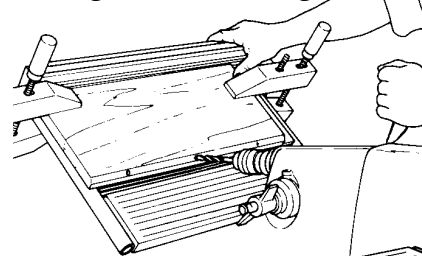

Figure C-37
1. Mount the rip fence on the table to use as a backstop. Tilt the table toward the headstock and clamp the stock to the table. See Figure C-37. If the angle is acute and you're boring through the stock, place scrap wood on the table and the rip fence.